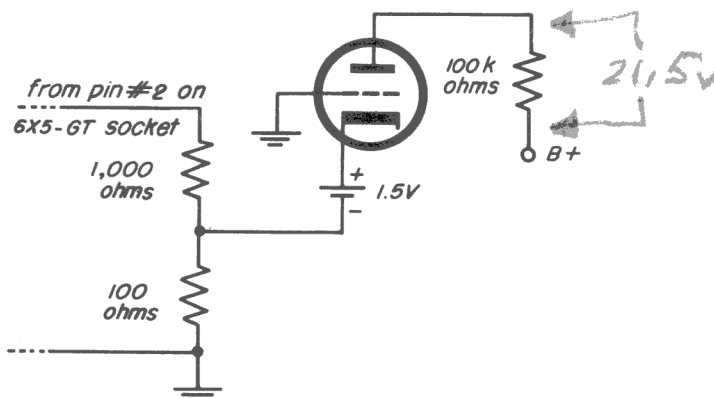

Fig. 23-10
Step 12. Check your work with the schematic shown in Fig. 23-10. Then plug in the power cord and allow the tubes to heat up.